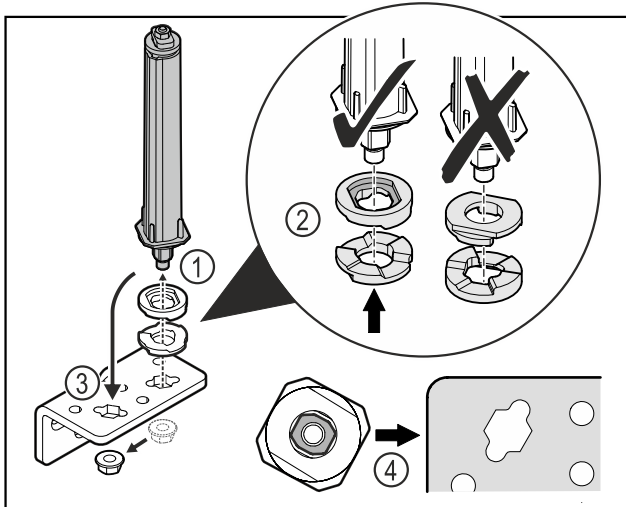

Fig. 41
- ▶ Loosen the nut and remove the door closing system Fig. 41 (1).
- ▶ Observe the correct alignment of the height adjustment washers Fig. 41 (2).
- ▶ Put the door closing system in the hinge fix in place with the nut Fig. 41 (3).
- ▶ Observe the correct alignment of the door closing system when doing so Fig. 41 (4).